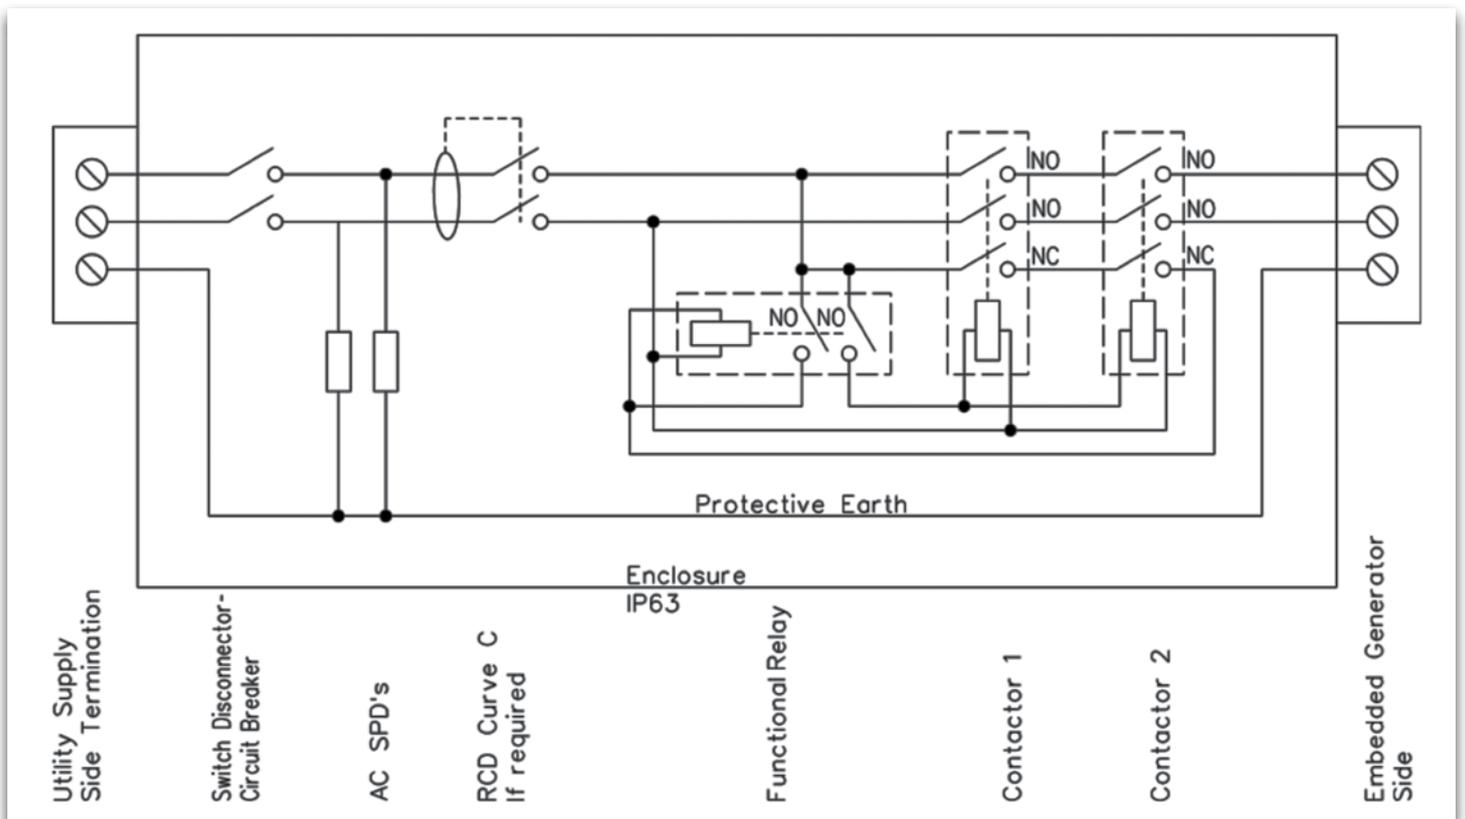

Figure 1: A schematic diagram of the DGSL.
2. Residual current breaker curve C (as in Fig 1) (if this function is not covered by the inverter of certain types of inverters).